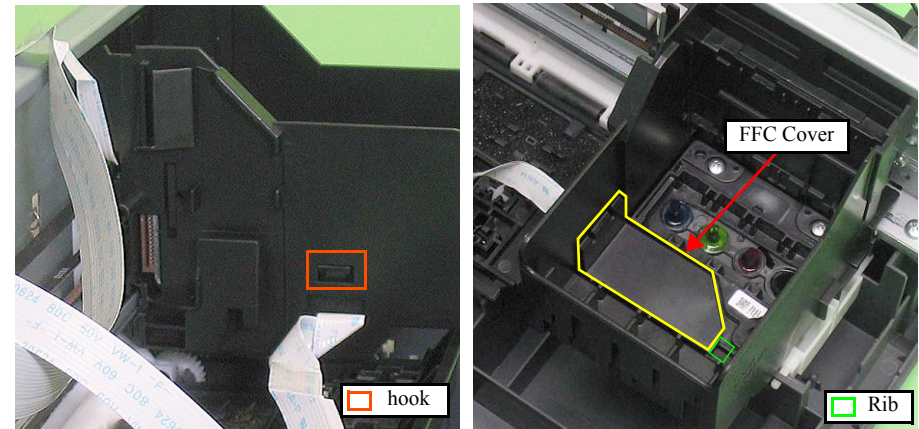

Figure 4-30. Removing the Printhead (5)
- When installing the FFC Cover, insert its rib to the hole of the CR Unit and secure it with the hook. (See Fig.4-30.)